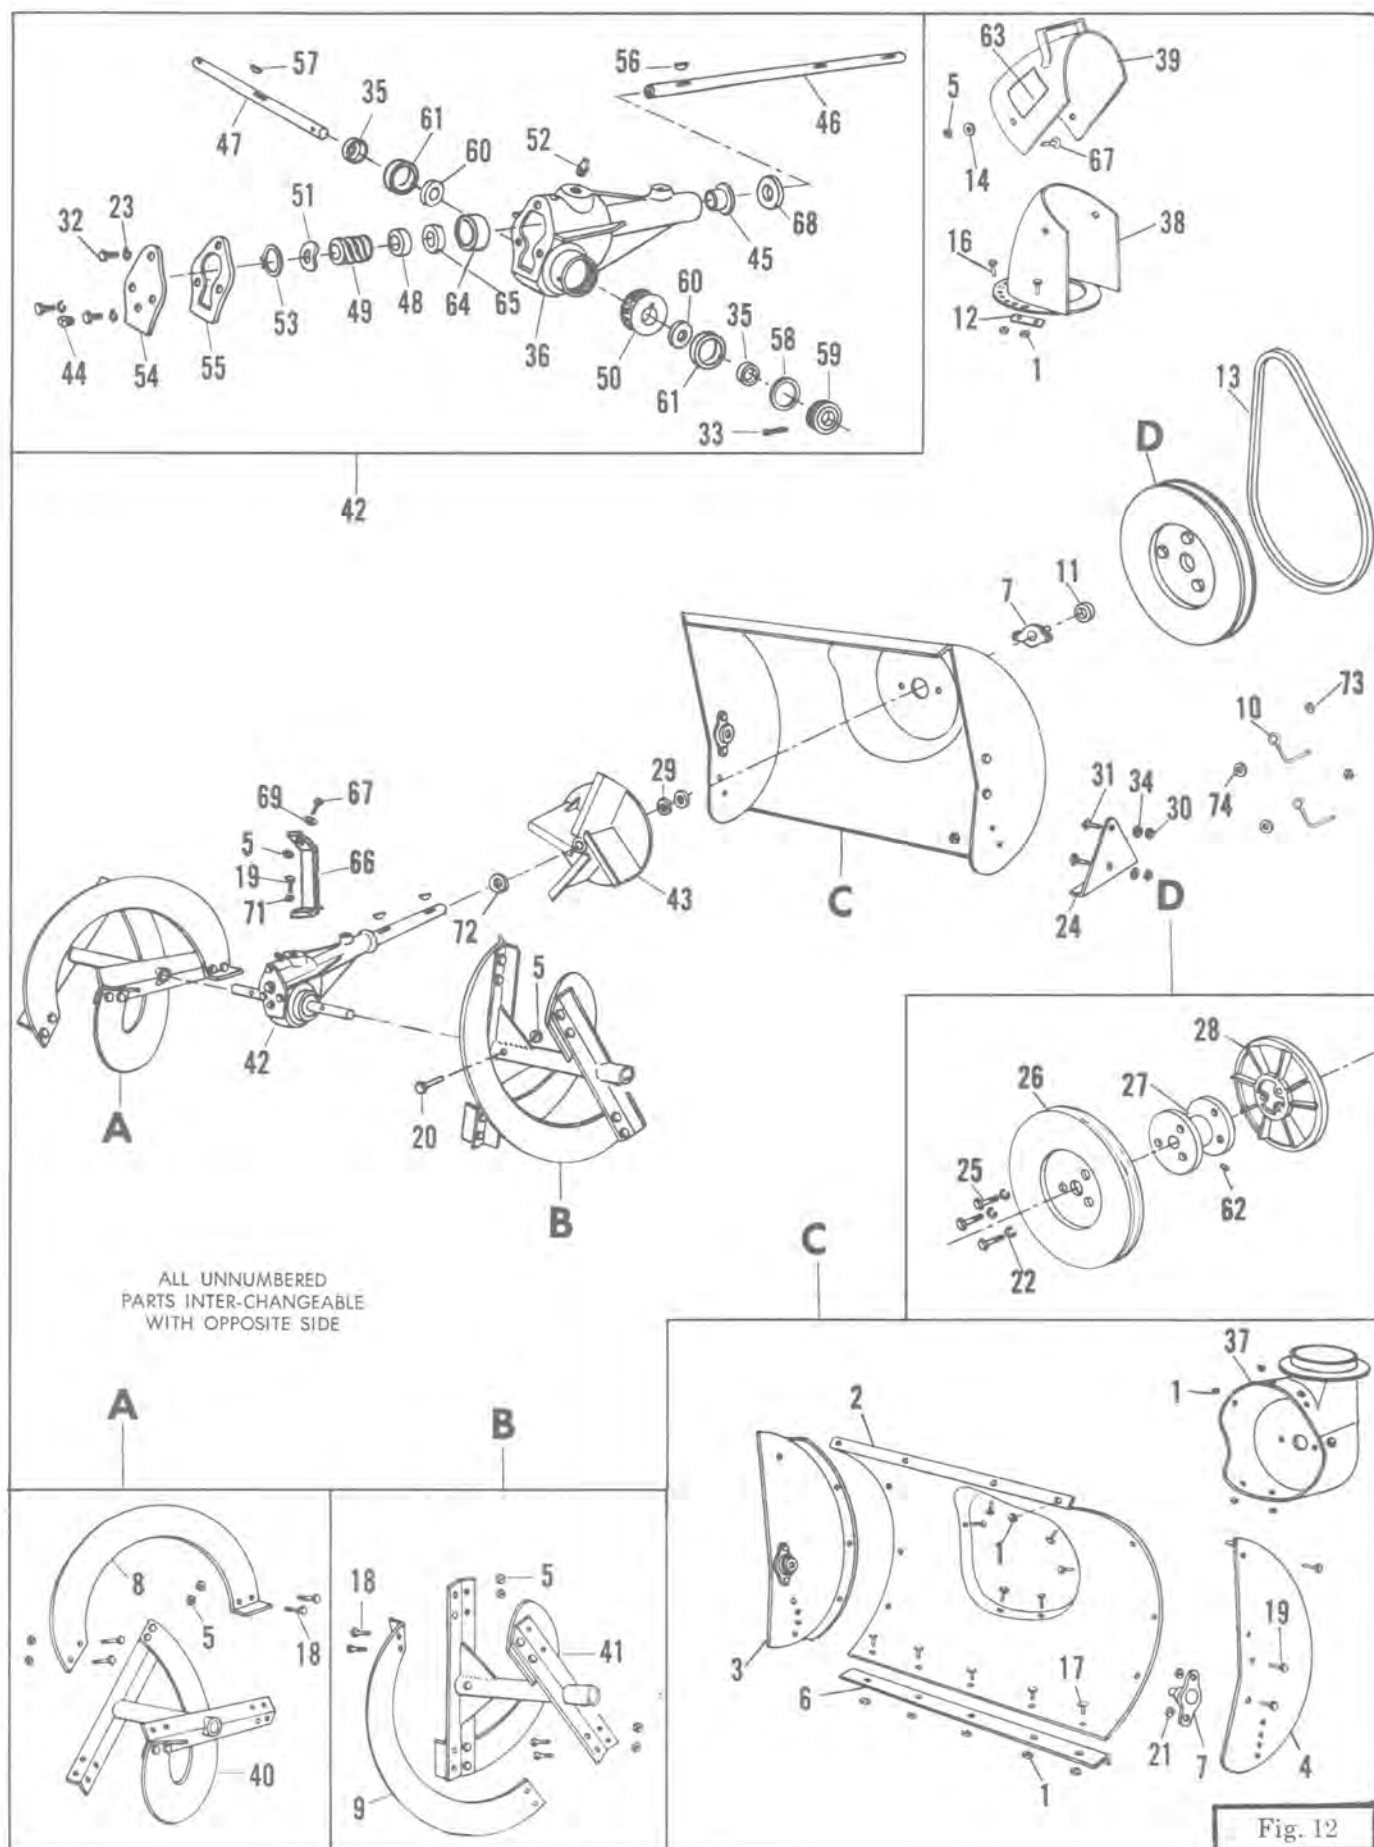

Fig. 12
17. Reassemble and install auger and rotor housing assembly reversing disassembly and removal procedures. Do not forget to install belt guide Fingers, Fig. 12.
PARTS LIST FOR FIGURE 12